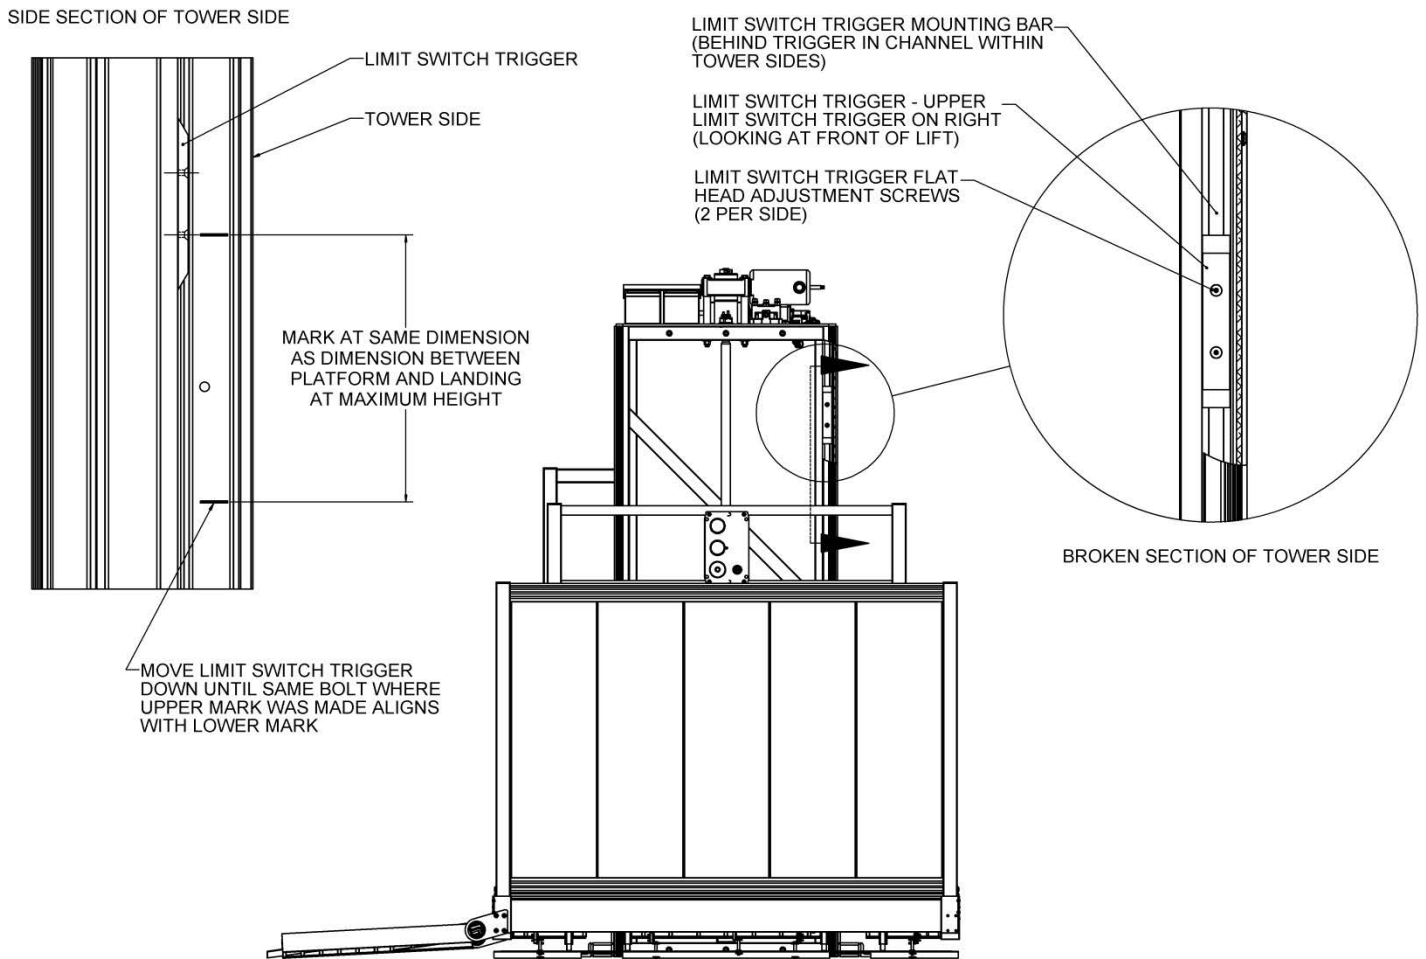

FIG. 4.11
26. Locate the limit switch trigger on the upper right inside of the tower side. Place a mark on the tower side aligned with one of the flat head adjustment screws on the limit trigger (FIG. 4.11).